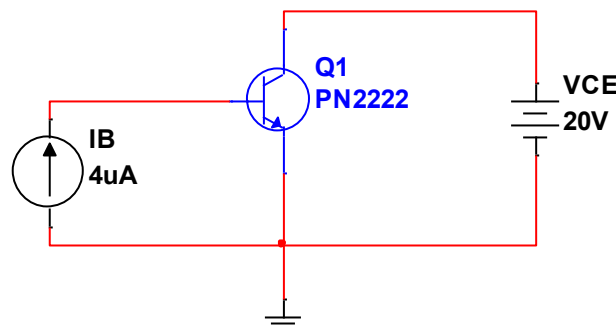

Figure 3. Schematic diagram of Part I.
- Task-1:** Input the circuit schematic of Figure 3 in Multisim schematic worksheet. You can find the other components in ‘Select a Component’ window: